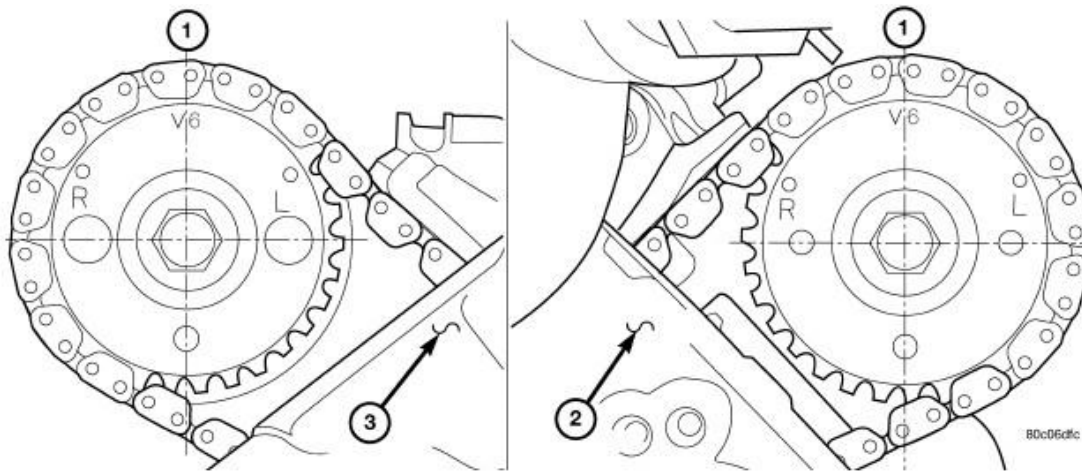

Fig. 67: Camshaft Sprocket V6 Timing Marks
6. Position the camshaft drive gear into the timing chain aligning the V6 mark between the two marked chain links (Two links marked during removal). Refer to **Fig. 67**.